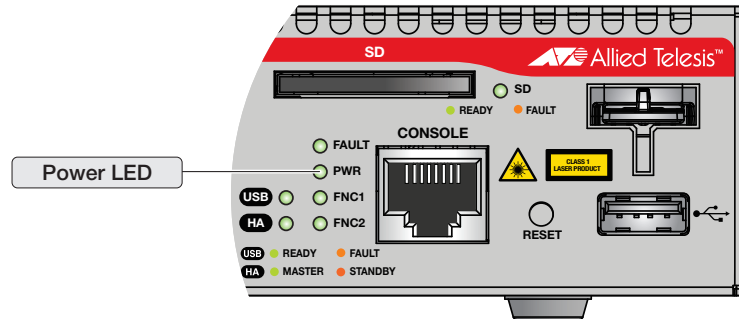

Figure 5. Power LED
**Power LED** The Power LED reports the status of AC power. The LED is shown in Figure 5.